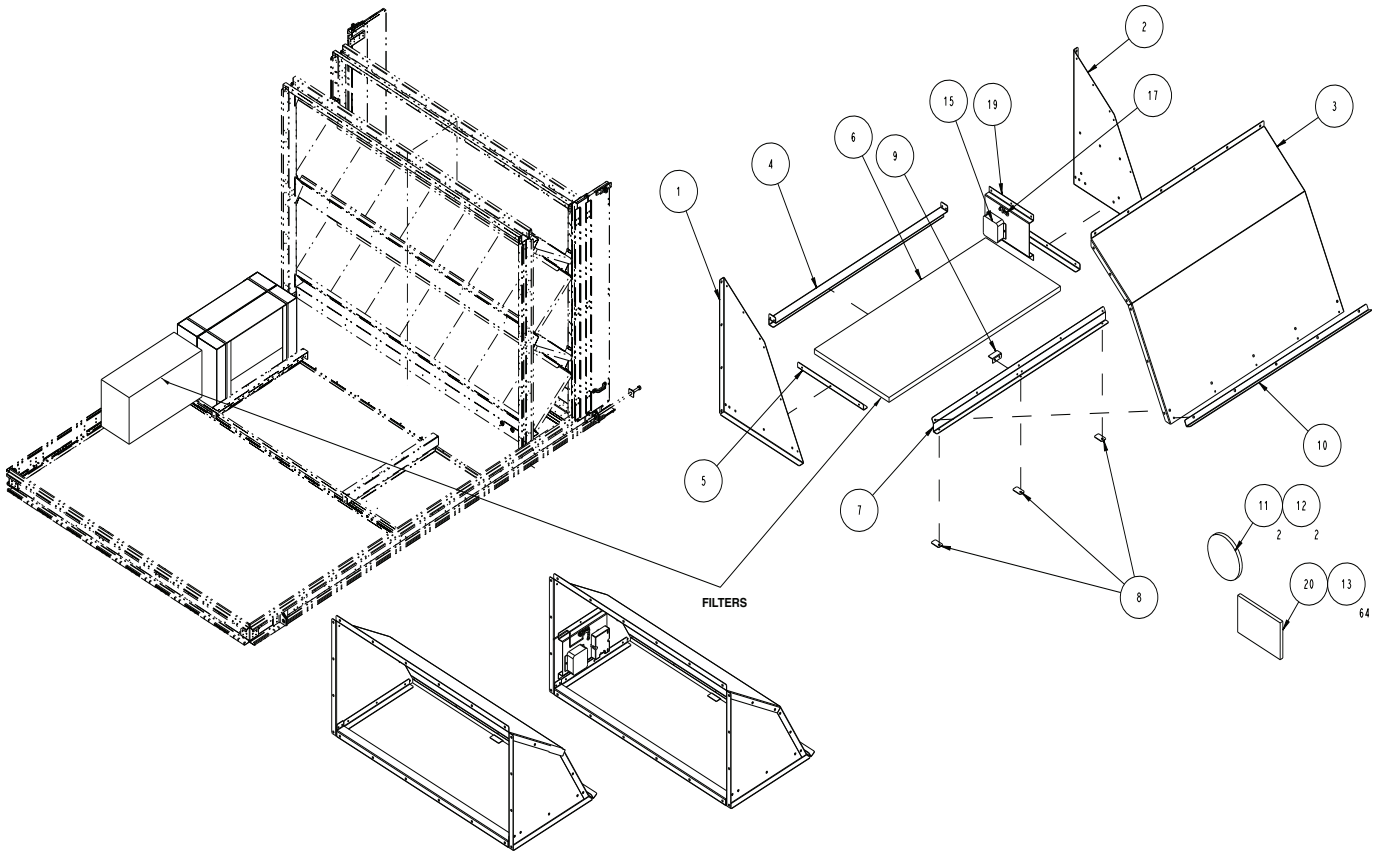

Fig. 42 — Hood Parts Detail; Filter Packaging Location
3. Assemble hoods. See Fig. 42.
5. Install the hood with the humidity sensor second from the bottom on the right hand damper. See Fig. 42. Route the wire harness attached to the damper to the humidity sensor and attach the wires to the sensor terminals per the markings on the harness